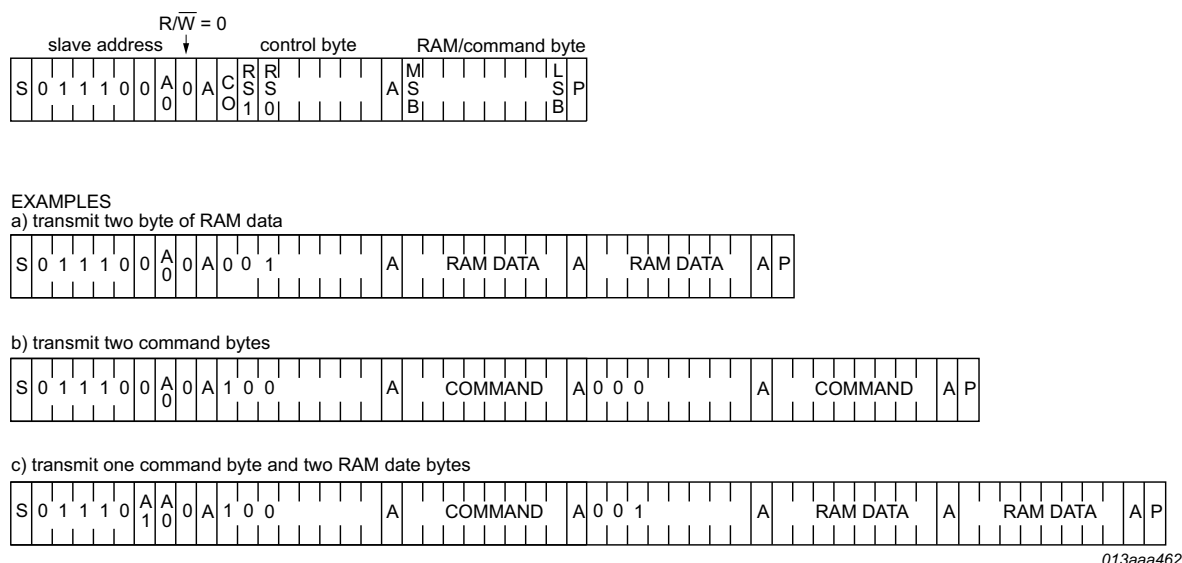

Fig 24. I²C-bus protocol write mode
The I²C-bus protocol is shown in Figure 24. The sequence is initiated with a START condition (S) from the I²C-bus master which is followed by one of the two PCA8546 slave addresses available. All PCA8546 with the corresponding A0 level acknowledge in parallel to the slave address. But any PCA8546 with the alternative A0 level ignore the whole I²C-bus transfer.